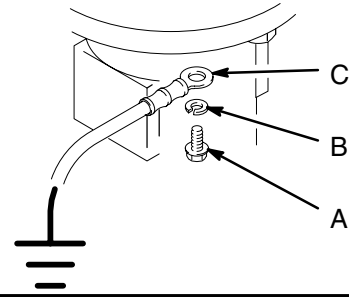

Fig. 2
Remove the grounding screw (A) and lockwasher (B). See Fig. 2. Secure the ground wire terminal (C) to the agitator with the screw and lockwasher. Connect the other end of the ground wire to a true earth ground. Order Part No. 222011, Ground Wire and Clamp.